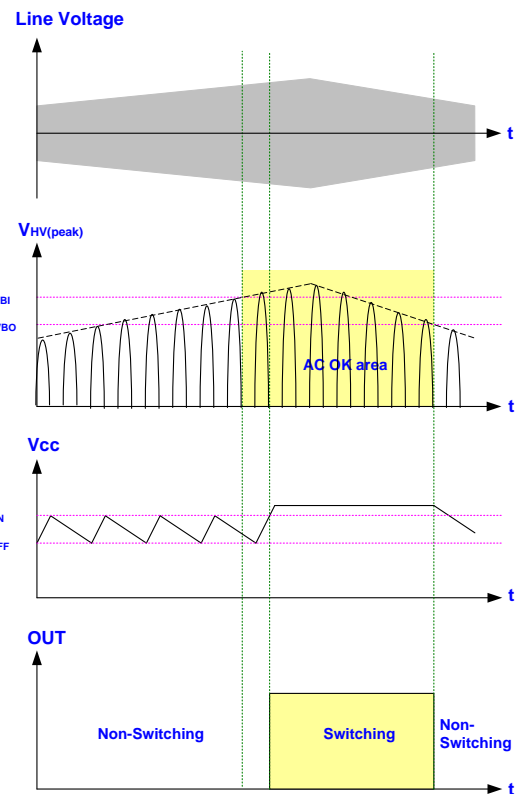

Fig. 14
The LD5760 features Burn-in/out function on HV pin. As the built-in comparator detects the half wave rectify line voltage condition, it will shut off the controller to prevent from any damage. Fig. 14 shows the operation. When  $V_{HV} < HVBO$ , the gate output will remain off even when the VCC already reaches UVLO(ON). It therefore forces the VCC hiccup between UVLO(ON) and UVLO(OFF). Unless the line voltage rises over  $HVBI V_{AC}$ , the gate output will not start switching even as the next UVLO(ON) is tripped. A hysteresis is implemented to prevent the false-triggering during turn-on and turn-off.